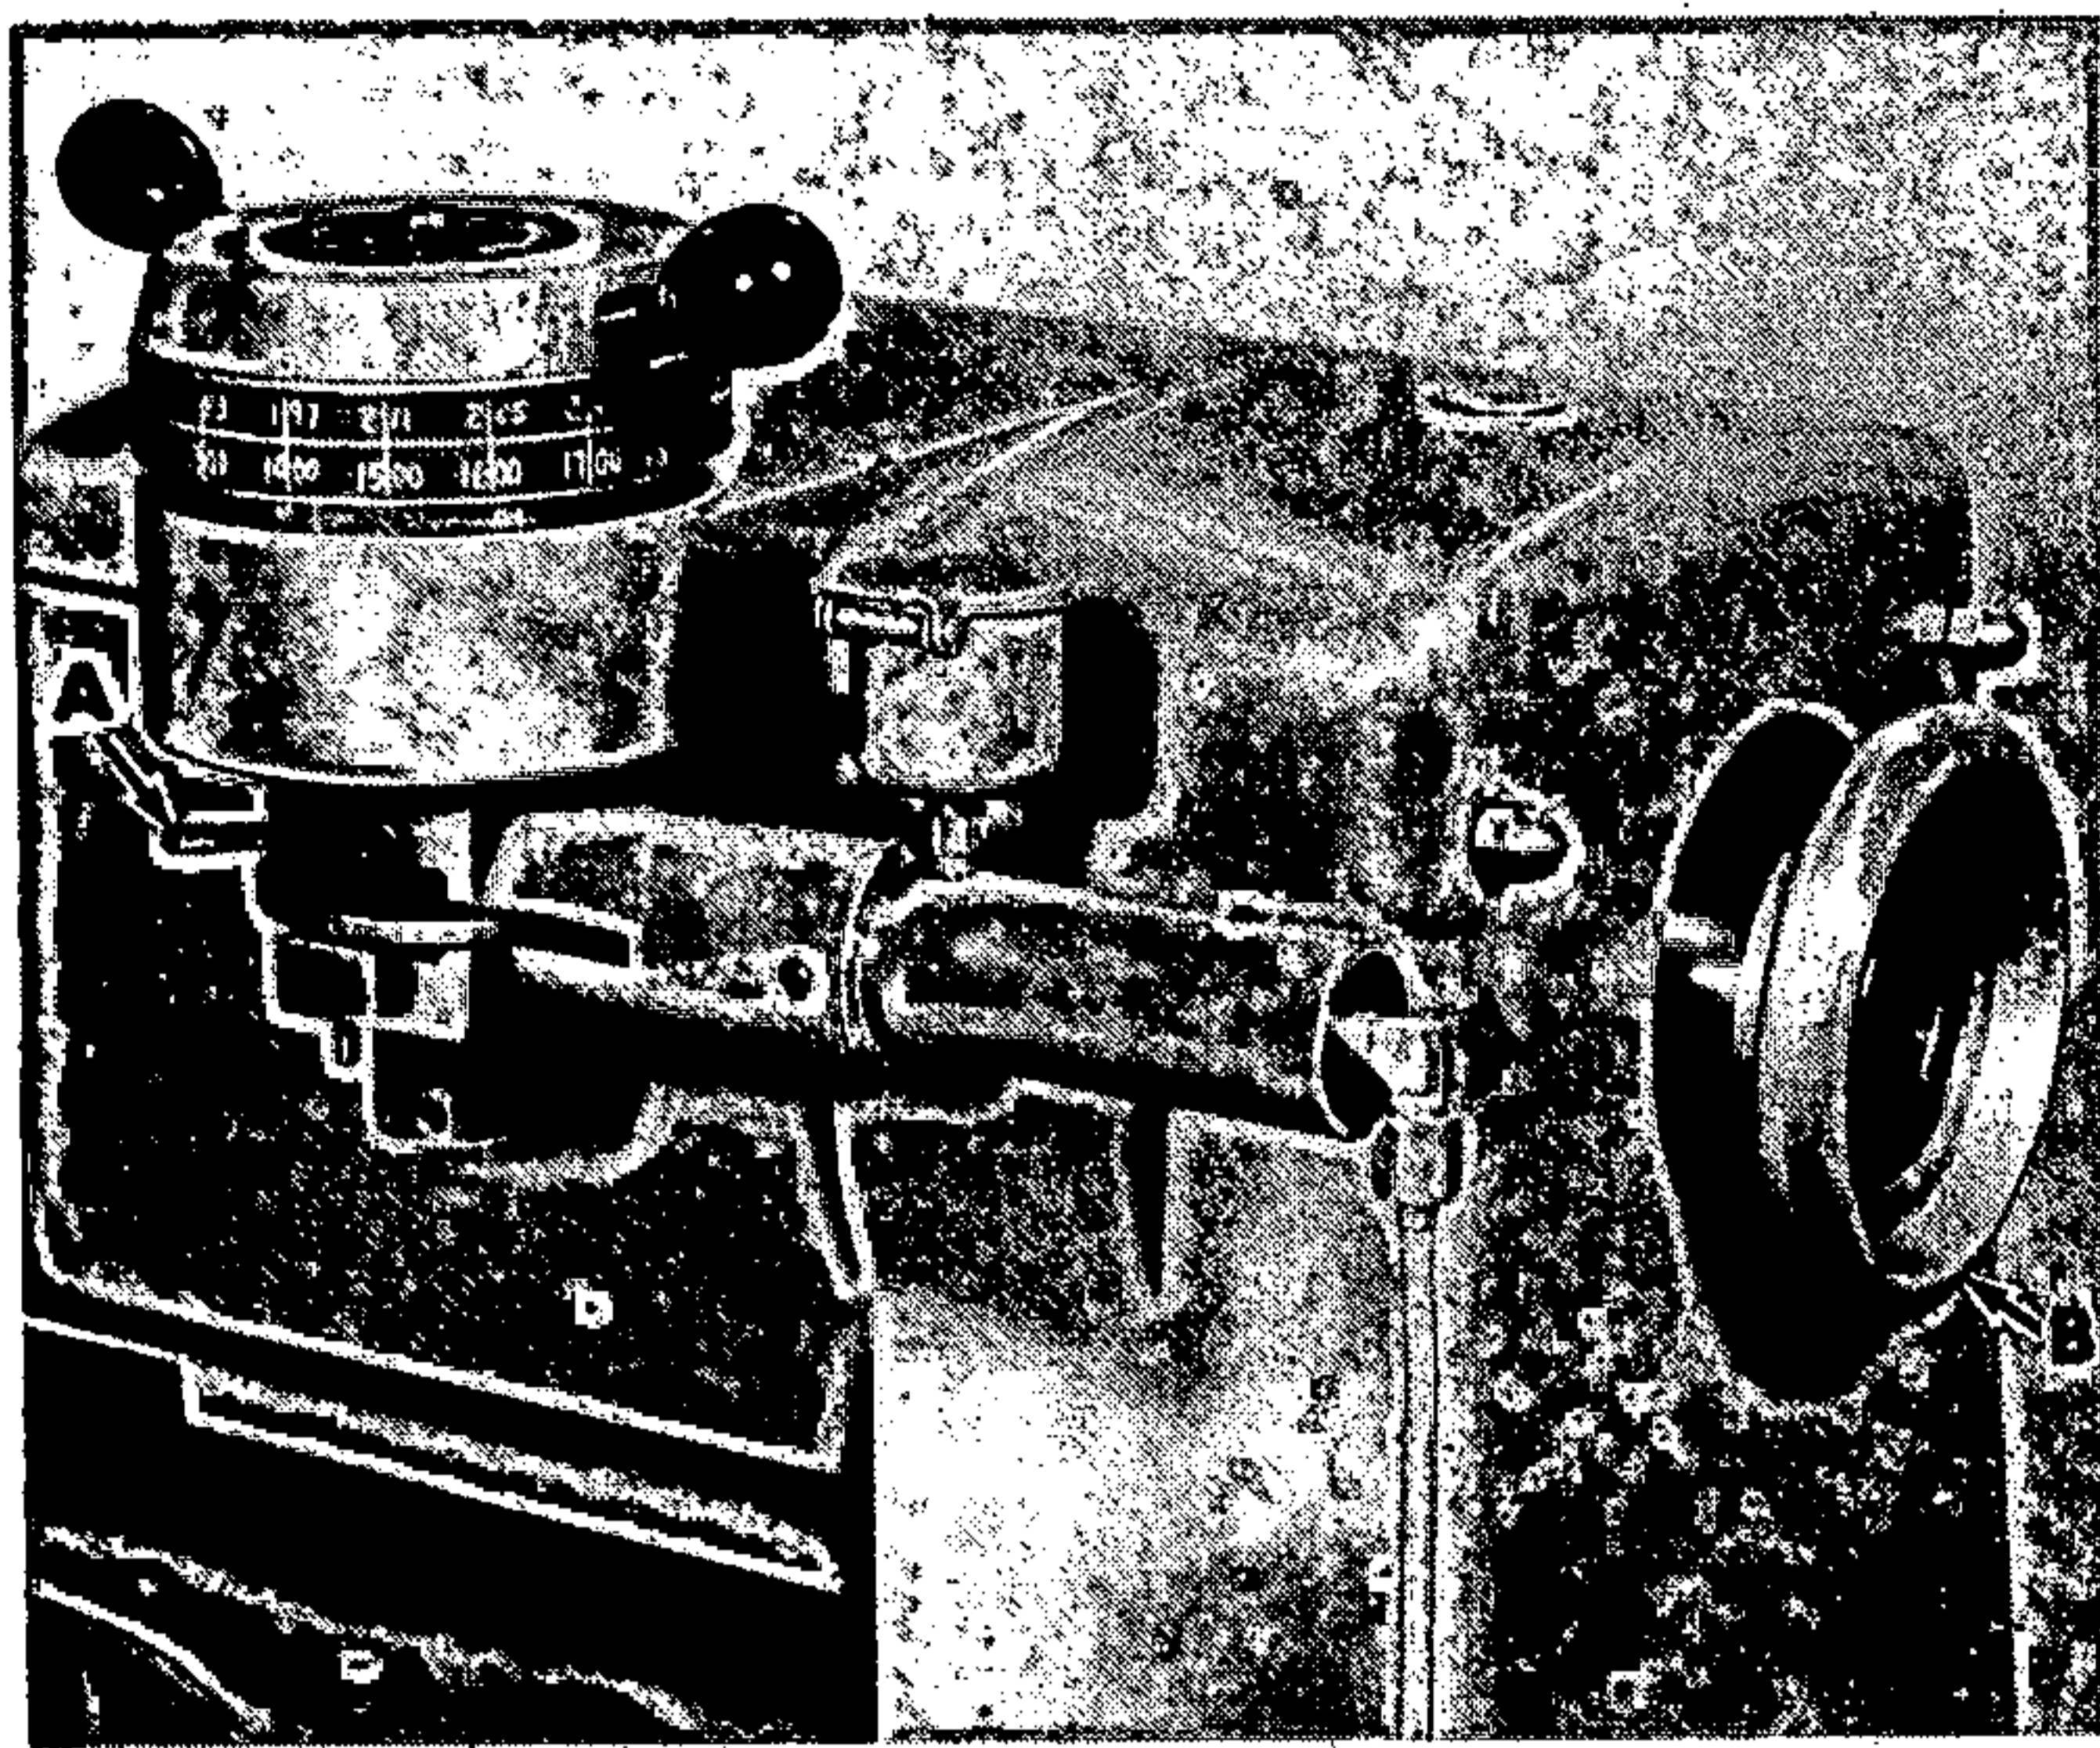
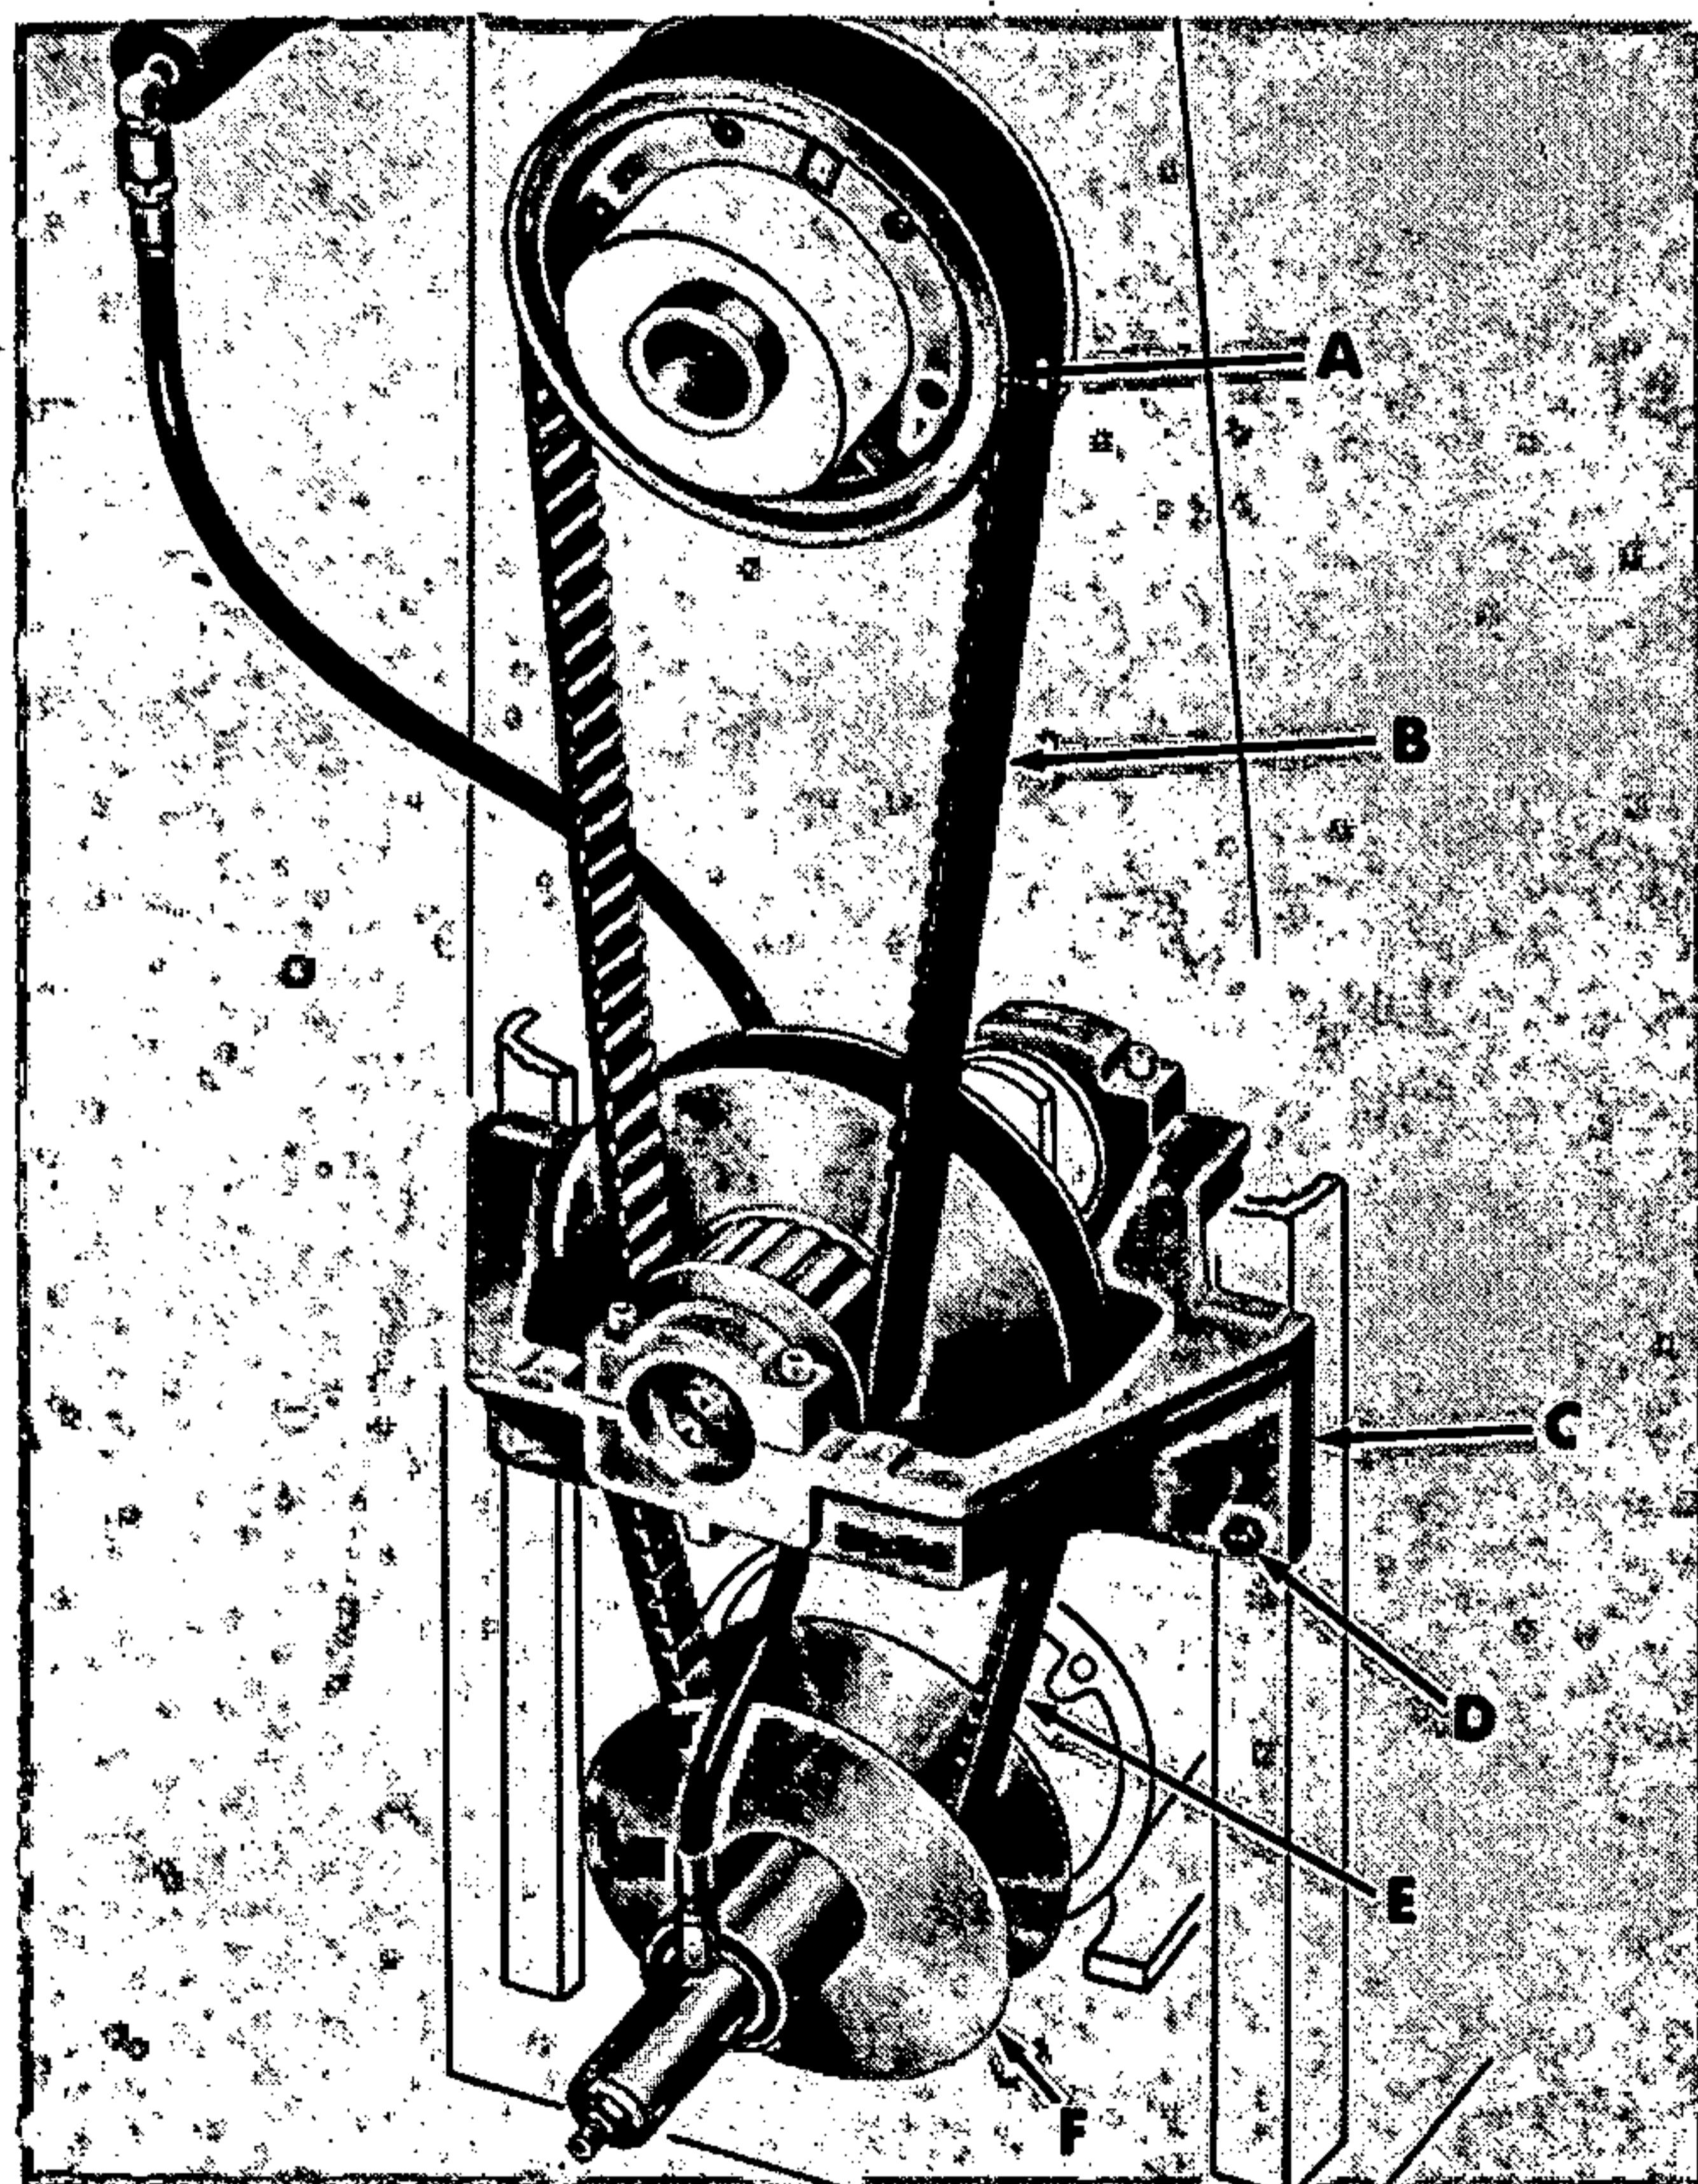
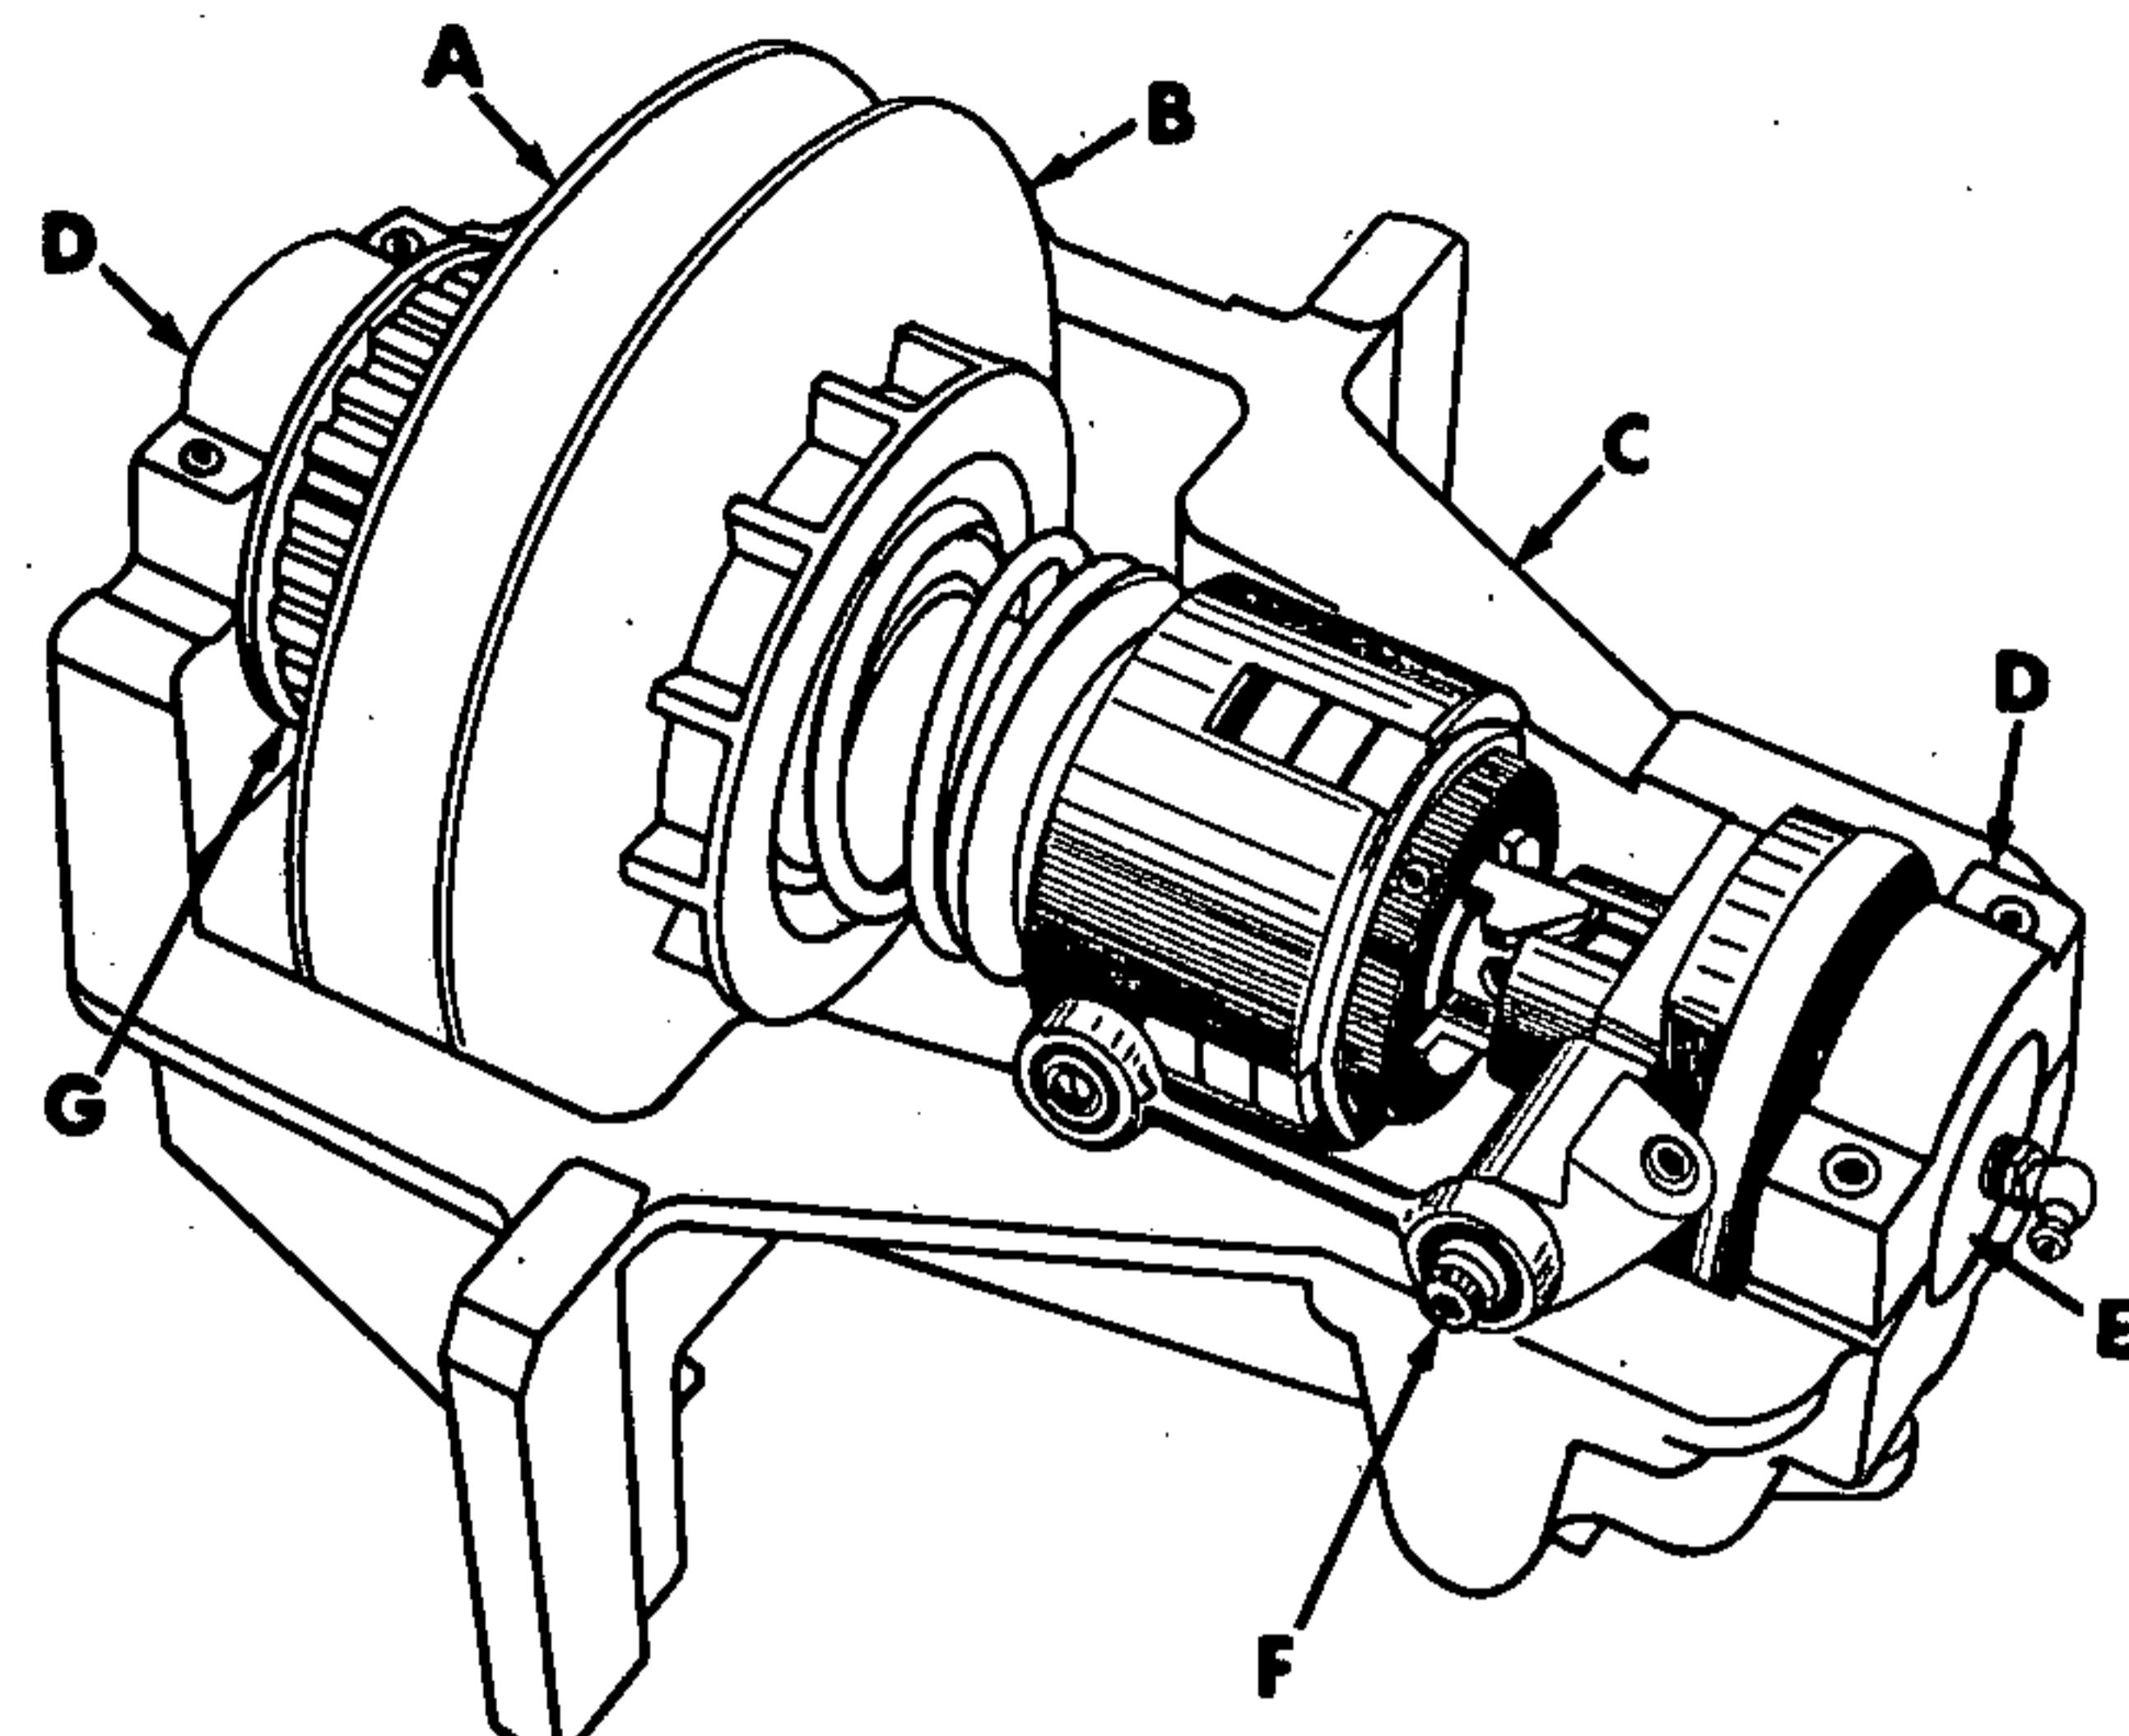

Figure 21
Figure 22
Figure 23
2. Remove spindle handwheel (B) (fig. 21), belt guards and front cover.
3. Turn variable dial back to lowest speed and lock dial in place with pin (A).
4. Holding variable dial against low speed stop, pull on outer sheave of lower variable motor pulley (F) (fig. 22) until variable belt (E) is loose.
5. Thru front cover opening, remove 5/16"-18 hex cap screw (F) (fig. 23) and spacer from clutch linkage.
6. Remove four hex nuts (D) (fig. 22). Raise countershaft (C) slightly and slip timing belt (B) off spindle pulley (A). Lower countershaft and slip variable belt (E) off variable motor pulley (F).
8. Remove bearing caps (D) (fig. 23), snap rings and countershaft spindle (E) from bracket (C).
11. Install spindle in countershaft bracket and secure in place with snap rings and bearing caps (D). **IMPORTANT:** Make sure timing belt is in place before installing bearing caps.
13. Position the countershaft (C) (fig. 22) so variable belt (E) can be slipped on motor pulley (F), then raise countershaft so timing belt (B) can be slipped on spindle pulley (A).
14. Place countershaft assembly on the four mounting studs (D), then snug up the four hex nuts. Refer to Tensioning Timing Belt steps 2-5.
16. Remove lock pin (A, fig. 21) from variable cam housing.
4. Pull on outer sheave of lower variable motor pulley (F) (fig. 22) until variable belt (E) is loose.
9. Remove timing belt from countershaft pulley (G).
10. Place new timing belt on countershaft pulley (G).
11. Install spindle in countershaft bracket and secure in place with snap rings and bearing caps (D). **IMPORTANT:** Make sure variable belt is in place before installing bearing caps.
12. Position the countershaft (C) (fig. 22) so variable belt (E) can be slipped on motor pulley (F), then raise countershaft so timing belt (B) can be slipped on spindle pulley (A).
13. Place countershaft assembly on the four mounting studs (D), then snug up the four hex nuts. Refer to **Tensioning Spindle Belt steps 2-5**.
15. Remove lock pin (A, fig. 21) from variable cam housing.